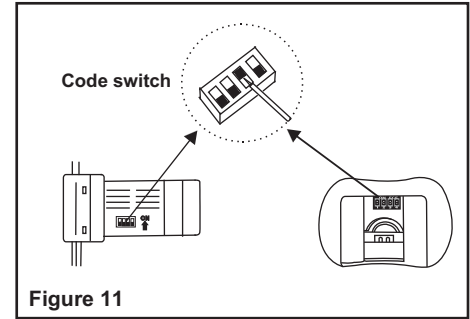

Figure 11
**NOTE:** This remote control unit is equipped with 16 code combinations to prevent possible interference from or to other remote units. The frequency switches on your receiver and transmitter have been preset at the factory. Please recheck to make sure the switches on the transmitter and the receiver are set to the same position, any combination of settings will operate the fan as long as the transmitter and receiver are set to the same position. (Fig. 11)